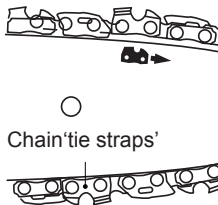

Fig. 7
1. Place the product on a suitable flat surface with the chain saw cover (14) facing forwards.
2. Check the chain tension using one hand to lift the saw chain (11) against the weight of the product. The correct chain tension is achieved when the saw chain can be lifted by approximately 2 - 4 mm from the guide bar (12) in the centre (Fig.7, 8).